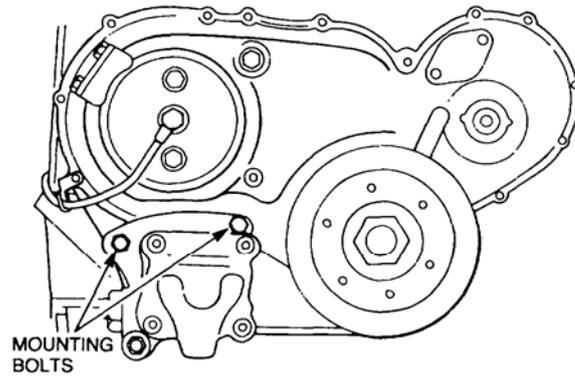

Figure 9 Power Steering Pump Removal
- g. Remove the pump (refer Figure 9).